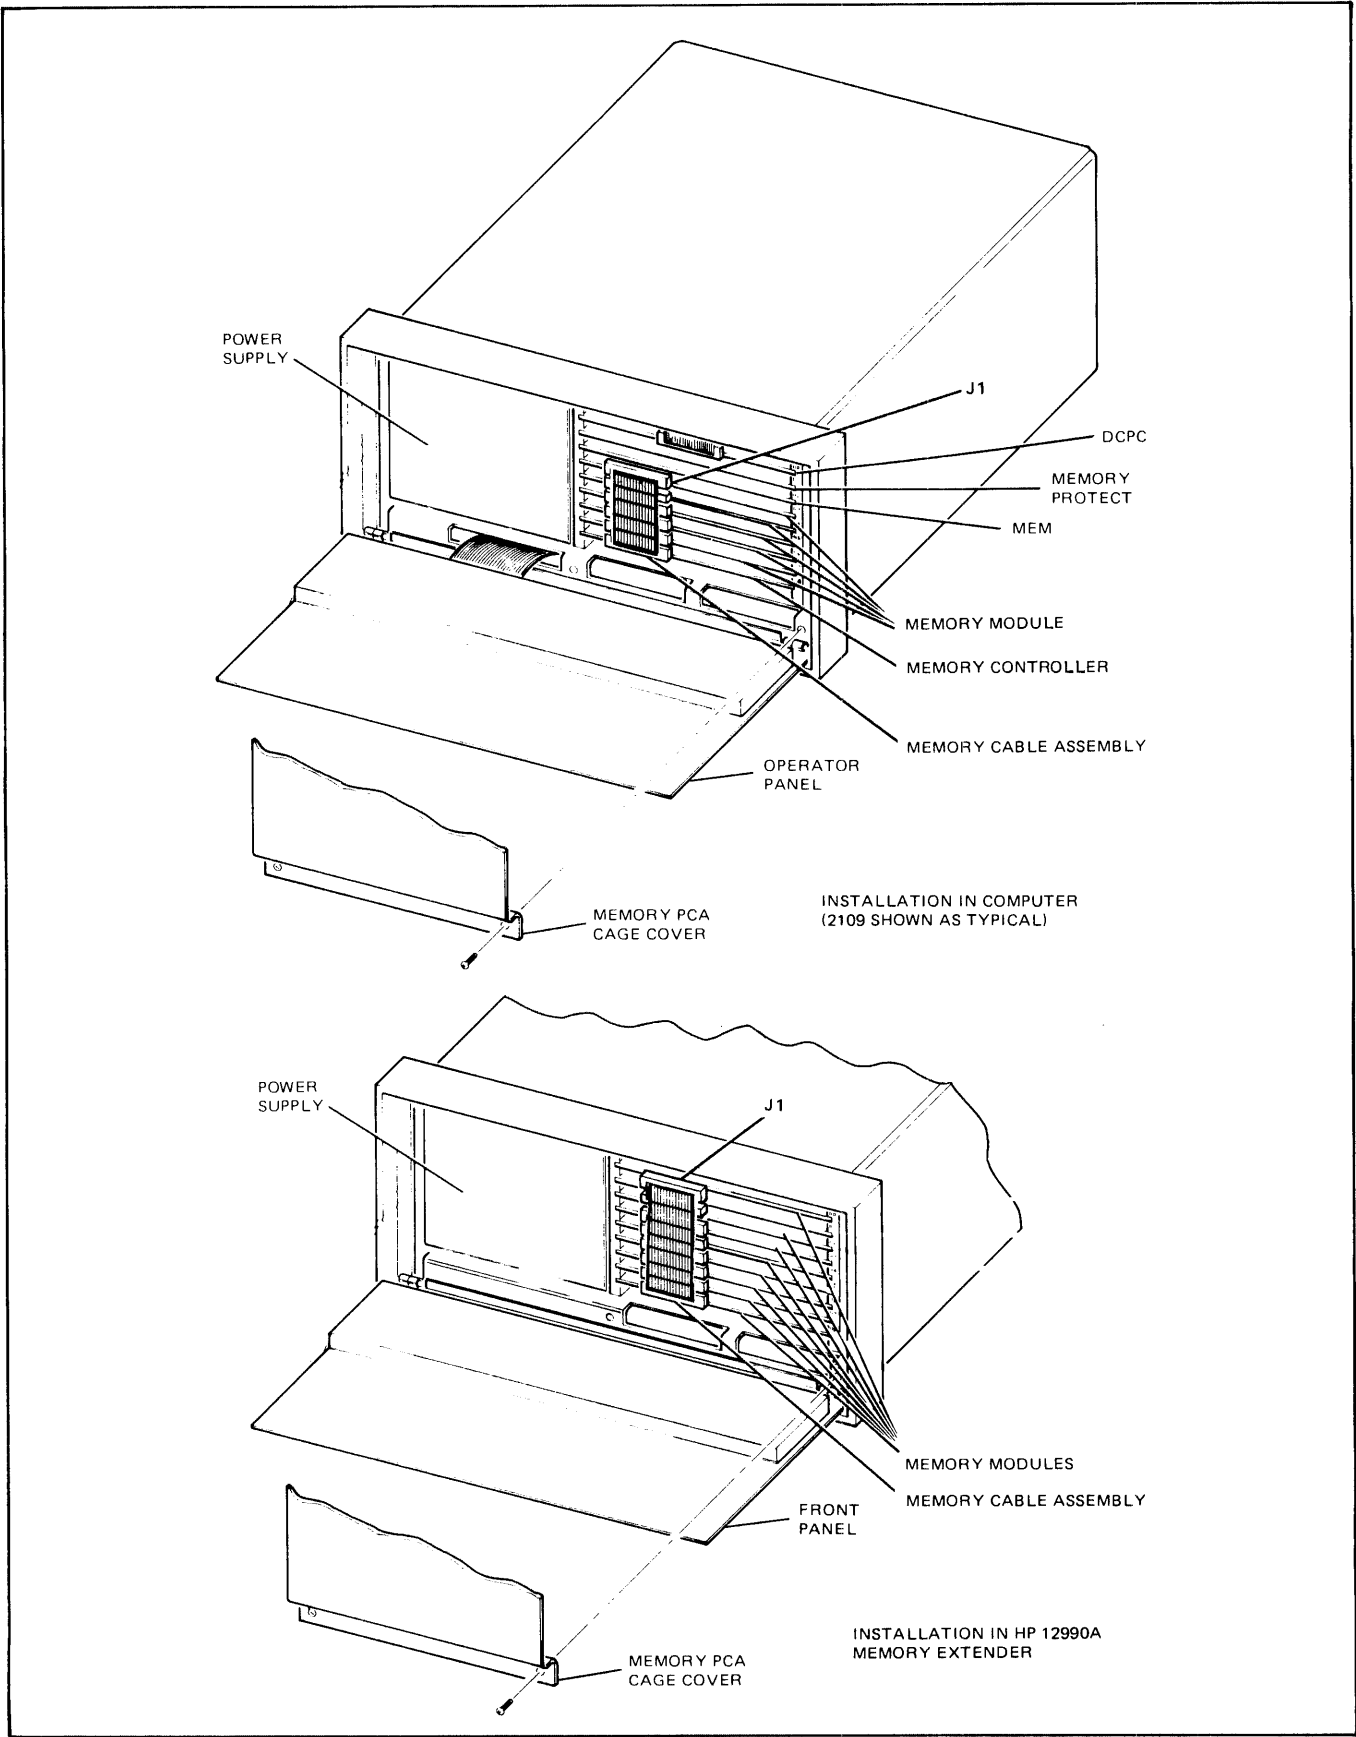

Figure 2-1. Memory System Installation Details (Non-Fault Control)
- b. Lower the operator panel and remove memory PCA cage cover and remove memory cable assembly if installed (see figure 2-1).
- d. Install the controller in the bottom memory slot with the component side up (see figure 2-1).
- f. Install memory modules in the computer or extender memory slots with the component sides up (see figure 2-1).